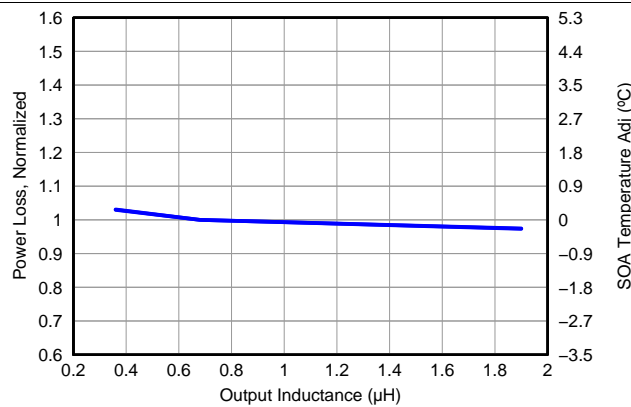

Figure 9. Normalized Power Loss vs Output Inductance
- Normalized power loss for output inductor \approx 1.05 (Figure 9)
- SOA adjustment for output inductor \approx 0.45°C (Figure 9)